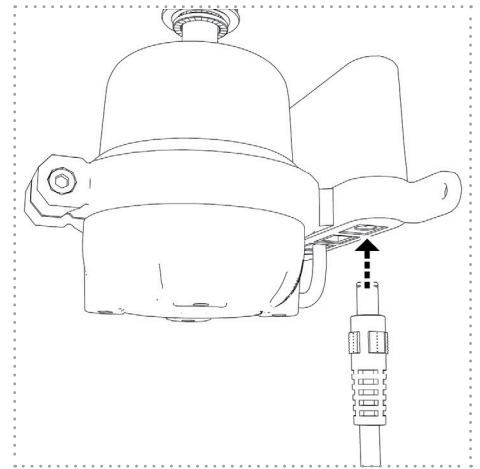

Figure 21
5. Now plug the connector of the connection cable into the designated connection socket on the UV unit (Figure 21). The UV unit should now be in standby mode and blink blue.